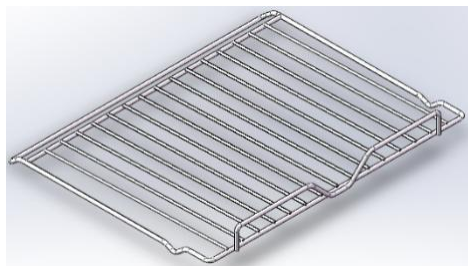

Fig.1
- ① Ordinary Microwave Function; ②Grill function (Can be combined with different functions) ;
- ④Microwave defrost; ⑥Temperature/Power/Weight;⑦Time setting symbol; ⑧Working time;
- ⑨ Heating Time;⑩ 8 different manuals;⑪ Duration time/Working Temperature/Alarm Time display⑫Alarm Symbol; ⑬Temperature up; ⑭Light; ⑮End Time; ⑯Lack of water; ⑰ Boost; ⑱Child lock
•Wire shelf (Fig.1)